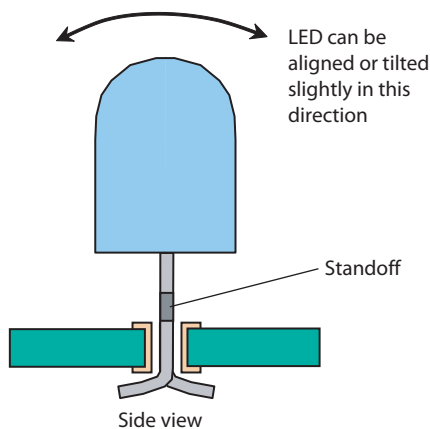

Figure 1. LED with standoff normally can be aligned or tilted slightly
- 1) Flexibility. As the standoff holds the LED body at a distance above the PCB, the LED has the flexibility of being aligned or intentionally tilted slightly by using an alignment fixture or other controlled means prior to wave soldering (See Figure 1). Refer to application note AN-5334 for precautions of alignment fixture designs and handling.